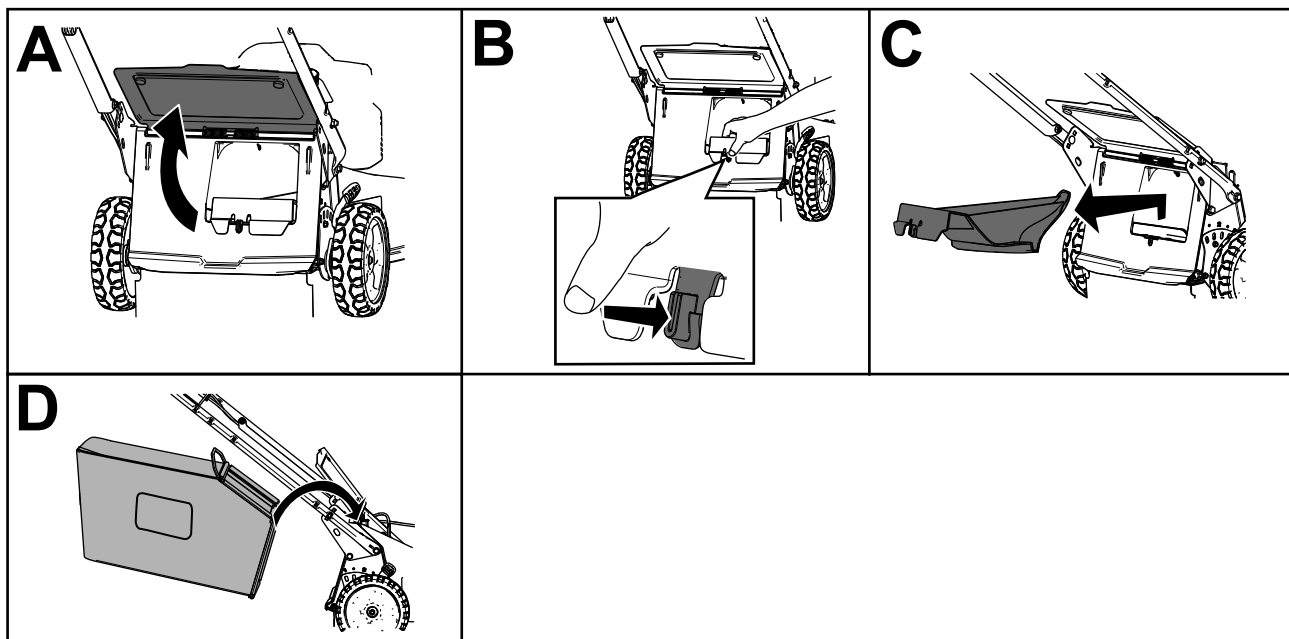

Figure 15
2. Raise and hold up the rear deflector (A of Figure 15).
3. Remove the rear-discharge plug by pushing in the latch with your thumb and pulling the plug out from the machine (B and C of Figure 15).
4. Install the bag-rod ends into the notches at the base of the handle, and rock the bag back and forth to ensure that the bag-rod ends are seated at the bottom of both notches (D of Figure 15).
3. Remove the bag rod on the grass bag from the notches at the base of the handle (A of Figure 15).
4. Install the discharge plug (B of Figure 15).
5. Lower the rear deflector (C of Figure 15).